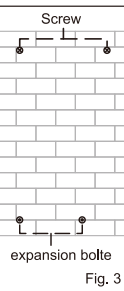

Fig. 3
4. Put two screws into the upper two holes (Fig. 3).